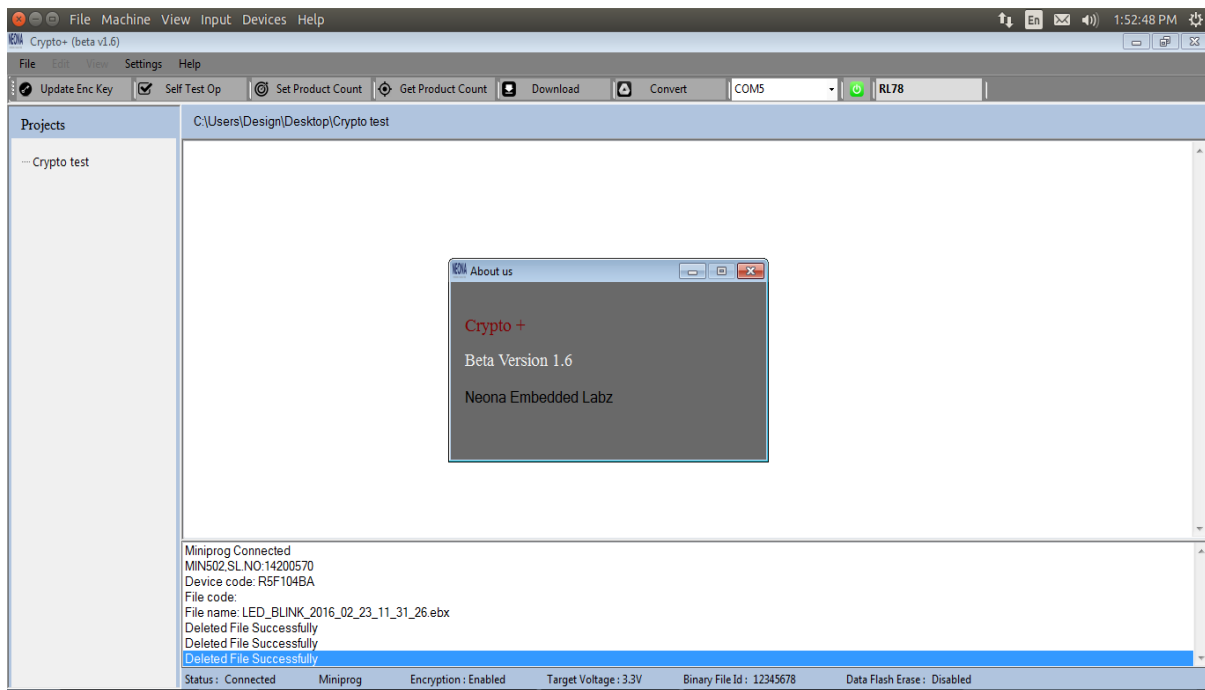

Figure 2.46
STEP 2: A window ‘**About Us**’ as shown in figure 2.46 will appear, which shows the details about the Crypto+.